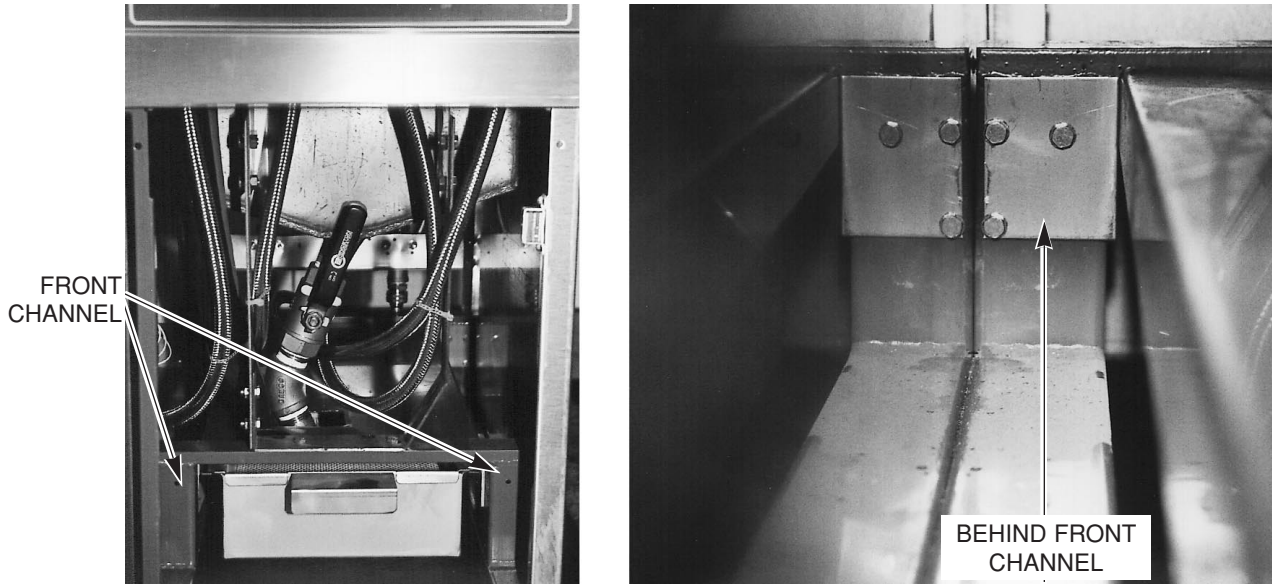

Fig. 57
2. From the front of unit with your hand reach around the front frame channel and feel for the (3) screws and scrap box mounting bracket. (Fig 57)
3. With a $\frac{5}{16}$ " socket remove (3) holding screws from each flange on either side of the front frame channels. (Refer to Fig. 57)